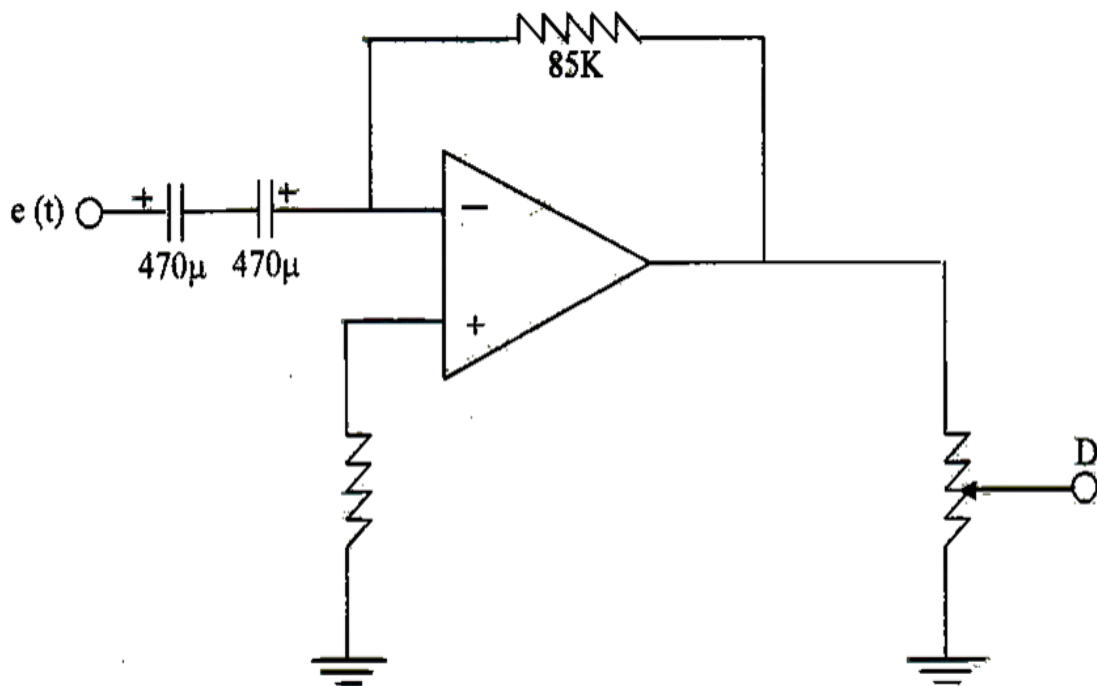

Fig. 9. Circuit for Differentiator
The derivative (D) block in this system is realized with the circuit of Fig. 9. This has a transfer function.